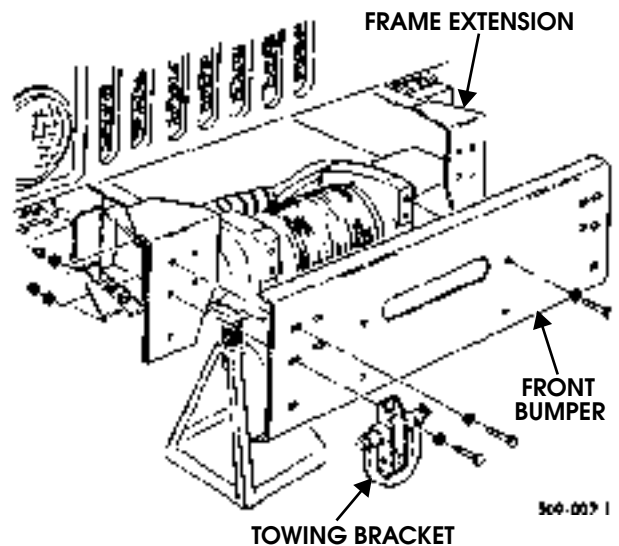

Figure 9-116: Front Bumper and Towing Bracket Replacement for Vehicles With Winch
1. Remove four bolts and washers securing winch to front bumper (Figure 9-116).
1. Install front bumper on frame extensions with six washers, bolts, five washers, and locknuts. Tighten bolts to 90 lb-ft (122 N•m) (Figure 9-116).